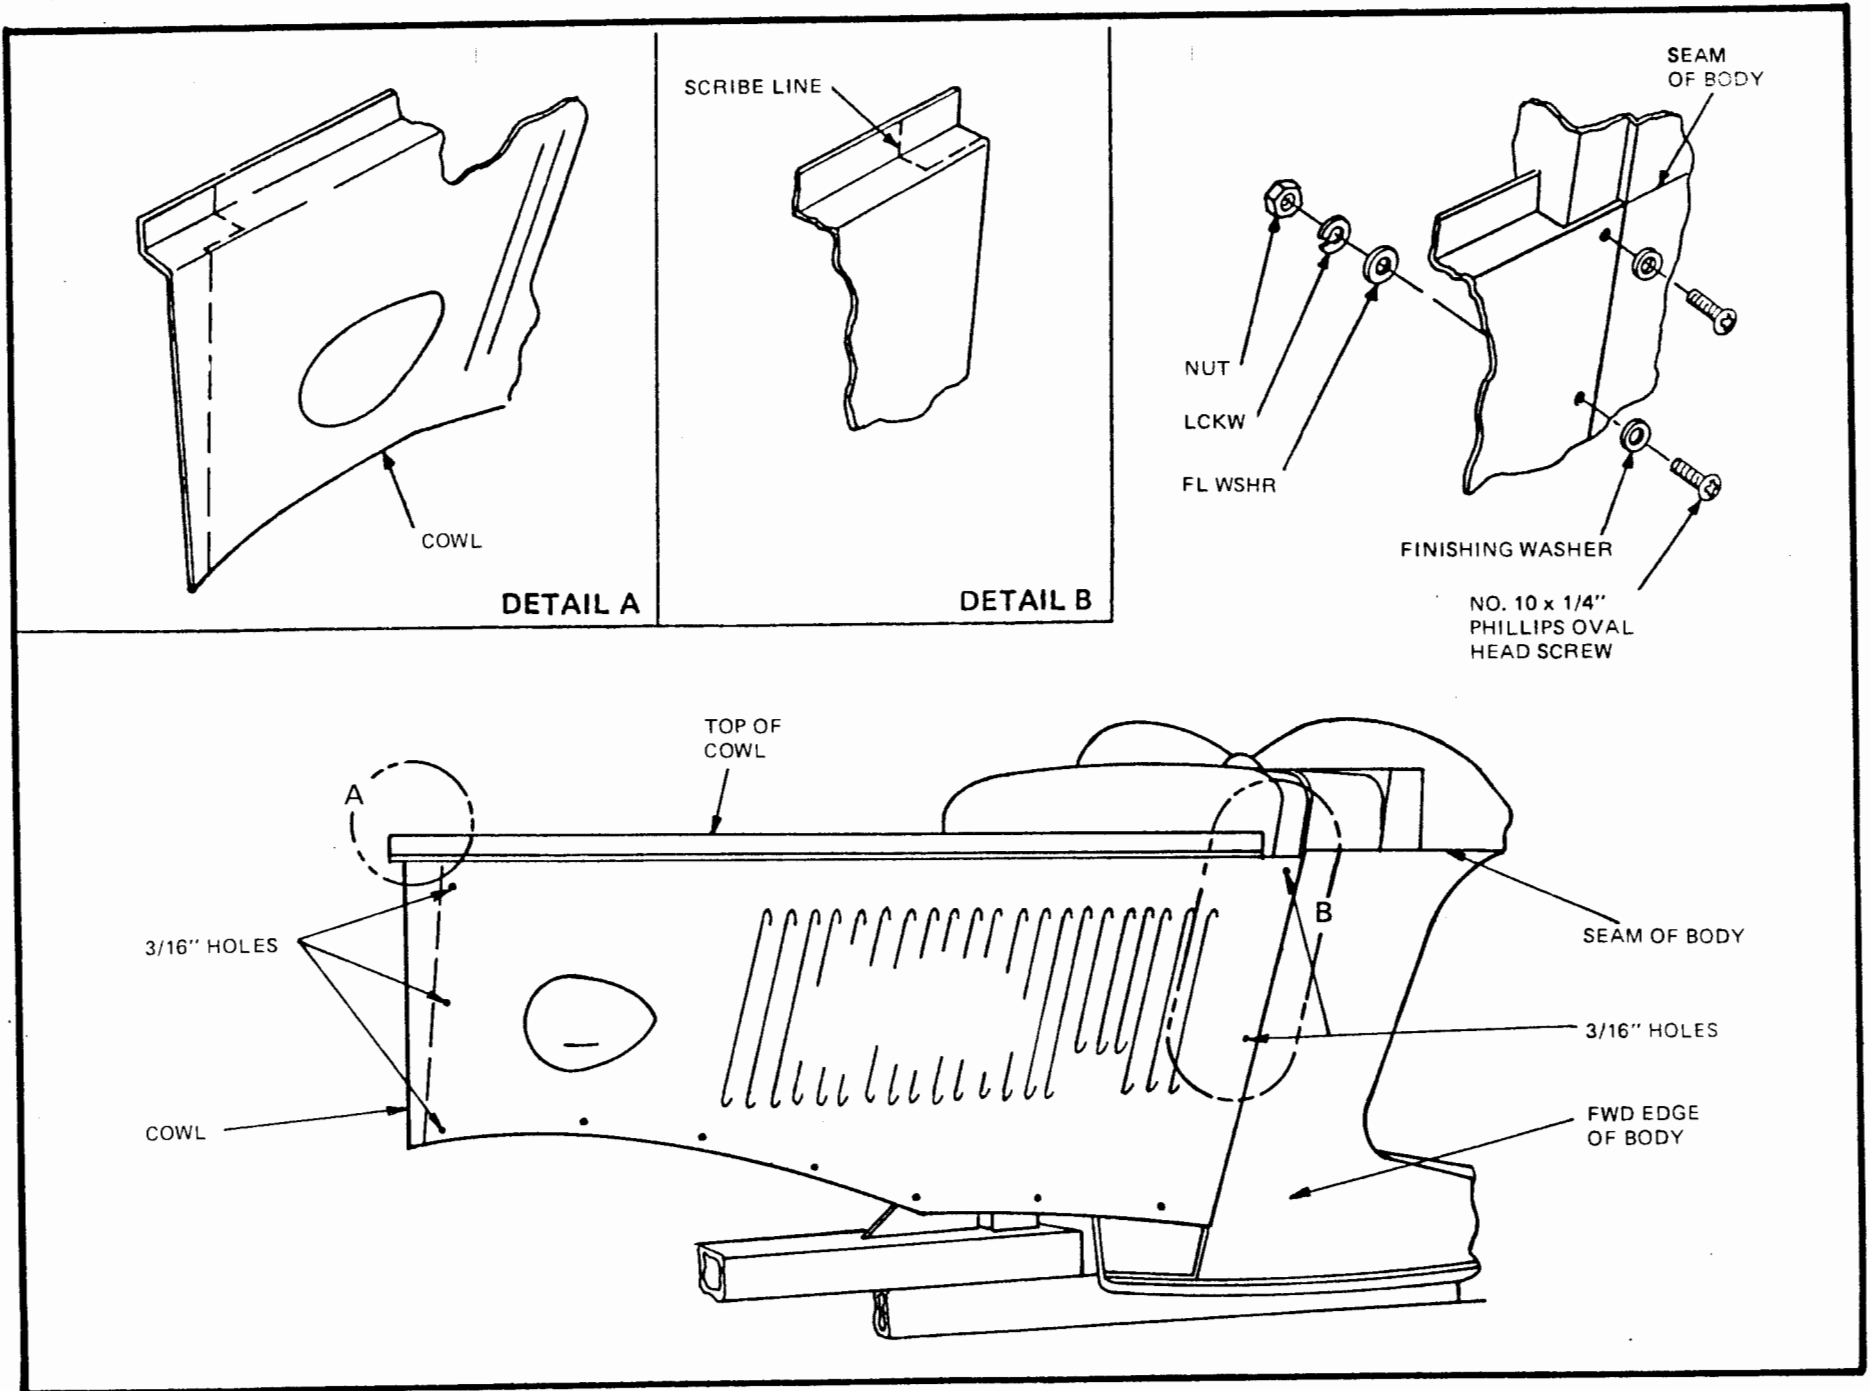

Figure 39
- Trim and drill cowls as per Figure 39. Carefully align cowls with body, matching rear of cowls with forward edge of body. Adjust height of cowls until top edge of cowl aligns with mold seam on body.
- Leave all other bolts out at this time. (Figure 39)